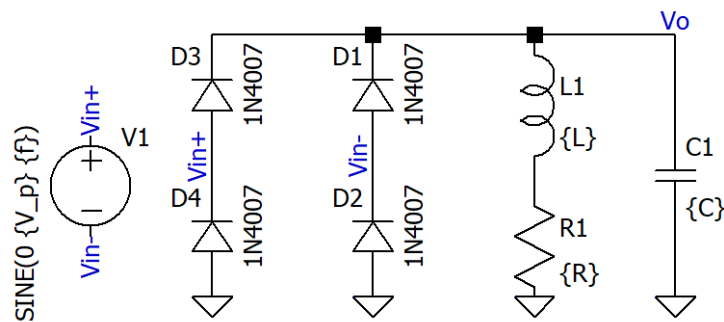

Figure3.1 Full Wave Rectifier with different loads
1. Connect the Circuit as shown in Figure 3.1.